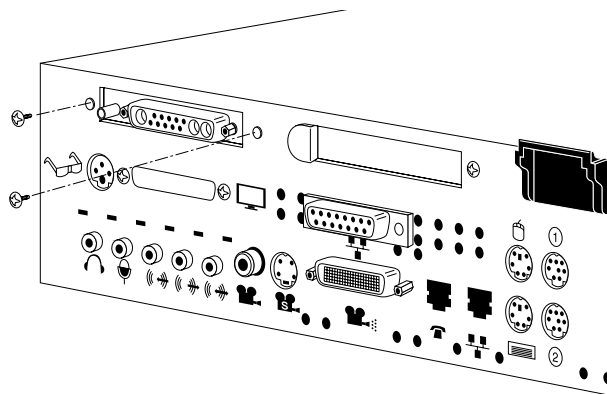

Figure 8-15 Removing the Exterior Screws for the X Board
6. On the rear of the workstation, remove the two screws in the locations shown in Figure 8-15.